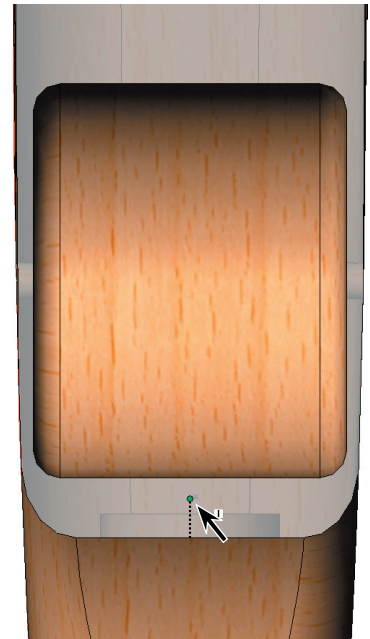

Fig. 44
Step 8. Scroll down to the rear wheel cutout, **Fig. 44**. To scroll hold down **Ctrl** and press **up arrow key**.
Step 10. Add a point for the rear eye screw. Click to place the hole approximately in the center of the body just below the wheel cutout, **Fig. 44**.
Step 12. Grab the point in the drawing and drag to activate the inferencing line, the dotted line that appears. Move the point to the inferencing line to align point with the center of the body, **Fig. 44**. Click OK  in the Point Property Manager.